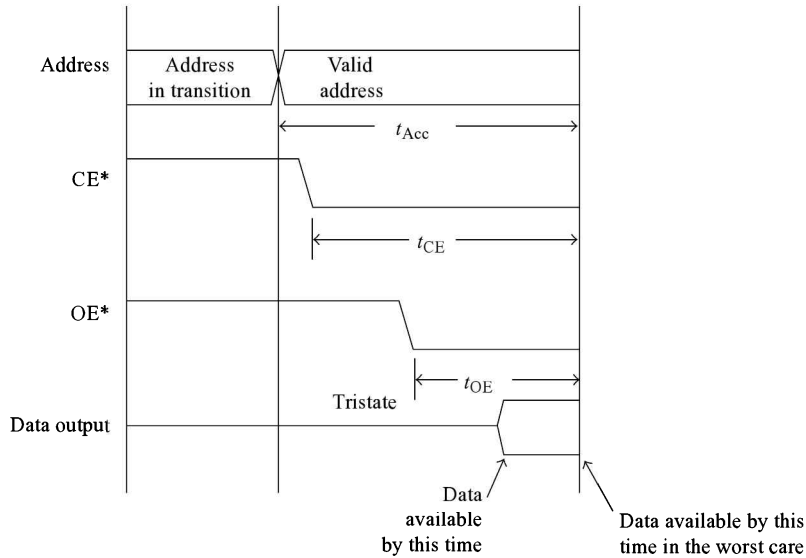
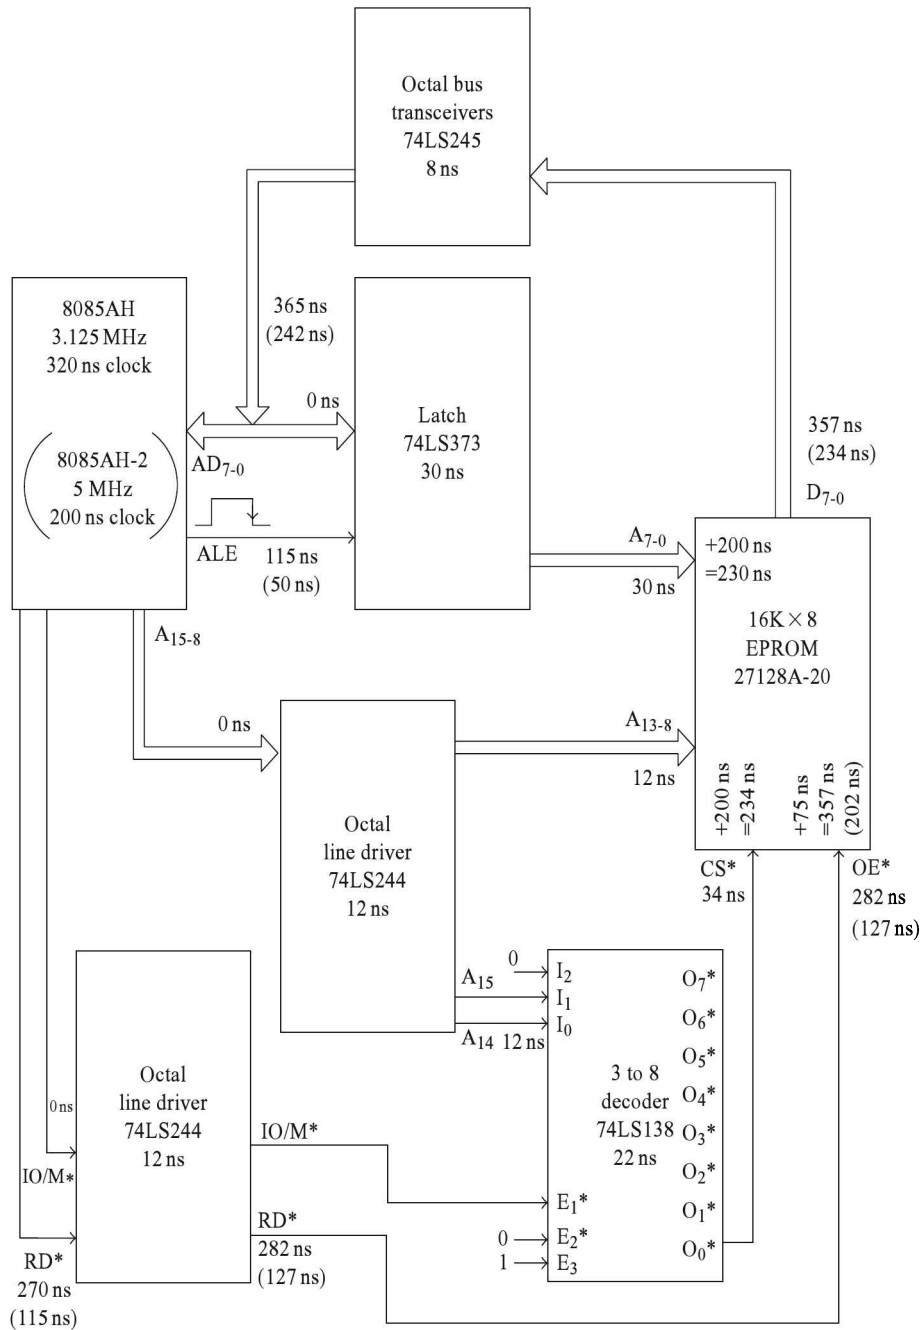

Fig. 13.17
Fig. 13.19 Delays involved in accessing 27128 EPROM in ALS kit
As an example, let us check up if the 27128A-20 16K $\times$ 8 EPROM chip can be used without any wait states with a 8085 operating at 320 nS clock period. For interfacing a memory chip, the most important timing parameters to be considered are t_{Acc} , t_{CE} , and t_{OE} . The memory read timing for a typical EPROM chip is shown in Fig. 13.17.
Fig. 13.19 shows the actual interfacing details of 27128A-2 chip in the ALS kit. Using this figure and figures 13.17 and 13.18, we can assess the compatibility of this chip with 8085AH working with 320-nS clock period.
Can this chip be interfaced with (assume interface circuit of Fig. 13.19):
14. Calculate the number of wait states needed if 8085AH-2 working with a T state of 200 nS is required to be interfaced with a memory chip having the following specifications. Assume interface circuit of Fig. 13.19.